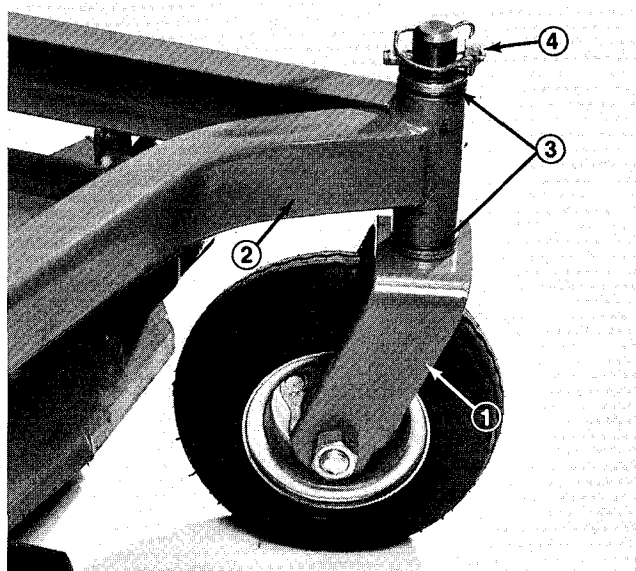

Figure 1
2. Insert shafts into carrier frame. Install two more thrust washers and secure with lynch pins (Fig. 1).